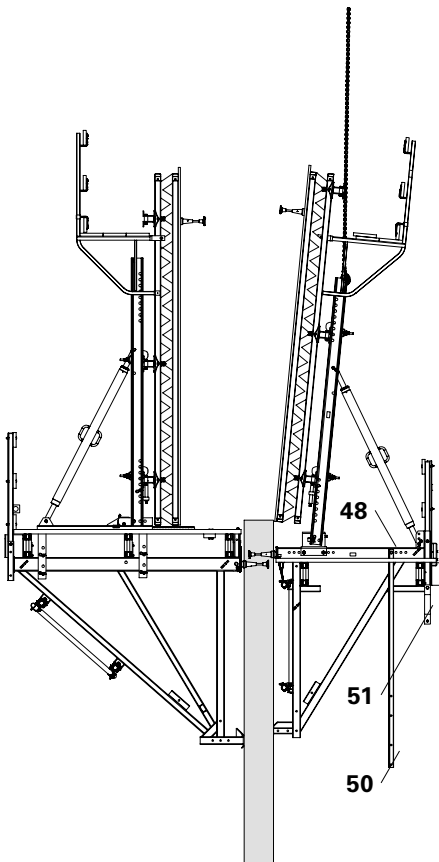

Fig. B1.24
1. Connect Guardrail Post CB 200 (50) to the Climbing Bracket CB 160 (6) and tighten Bolts ISO 4014 M16 x 130-8.8 (48). Bolt on Belt Connector CB (51), see B1 Wind bracing.
2. Attach platform unit to strongback and lift out of the anchoring. Do not exceed the crane capacity, see B4. (Fig. B1.24)